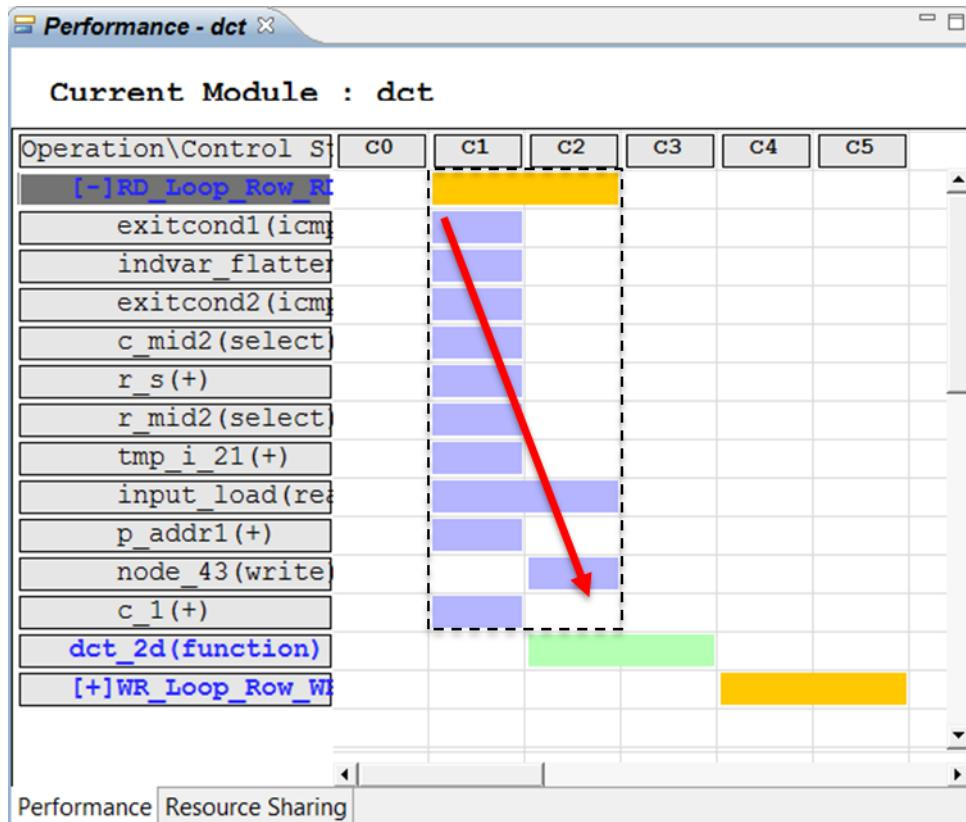

Figure 128 Analysis of DCT RD_Loop_Row
9. In the Performance view, expand the first loop in the design as shown in Figure 128, RD_Loop_Row_RD_Loop_Col (these loops were flattened and the name is now a concatenation of both loops).
This loop is implemented in 2 states. The red arrow in Figure 128 shows the path from the start of the loop to the end of the loop: the arrow is almost vertical (everything happens in two clock cycles) and this loop is well implemented in terms of latency.